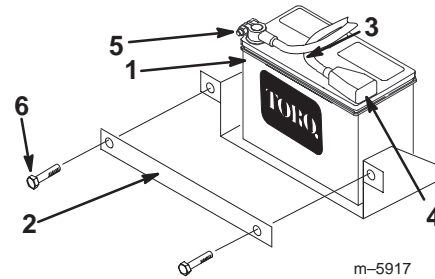

Figure 1
2. Remove the bolts, nuts, and clamp securing the battery (Fig. 1).
- 9. Secure the battery in chassis with the clamp, bolts, and nuts removed previously (Fig. 1).
- 10. Using the bolt and nut supplied with the battery, connect the positive (red) cable to the positive (+) battery post (Fig. 1). Slide the rubber cover over the battery post.
- 11. Using the bolt and nut supplied with the battery, connect the negative (black) cable to the negative (-) battery post (Fig. 1).